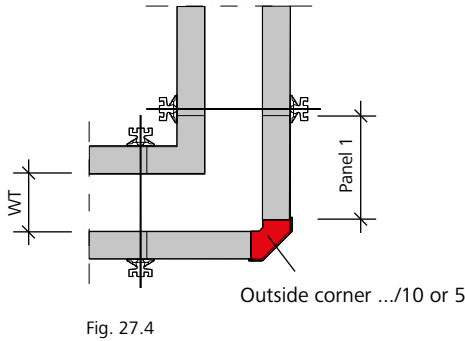

Fig. 27.4
- Outside corner 5 = Wall thickness (cm) + 20 (Fig. 27.4).